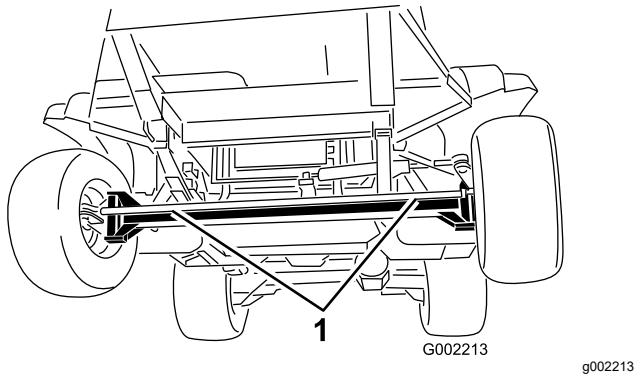
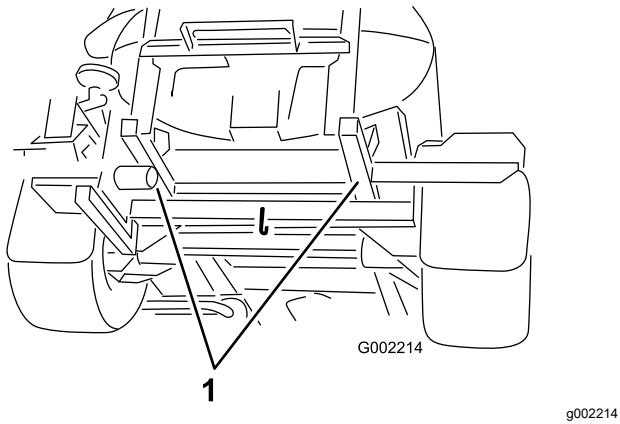

Figure 56
Figure 57
4. Affix a tow line to the frame; refer to the front and rear towing points (Figure 56 and Figure 57).